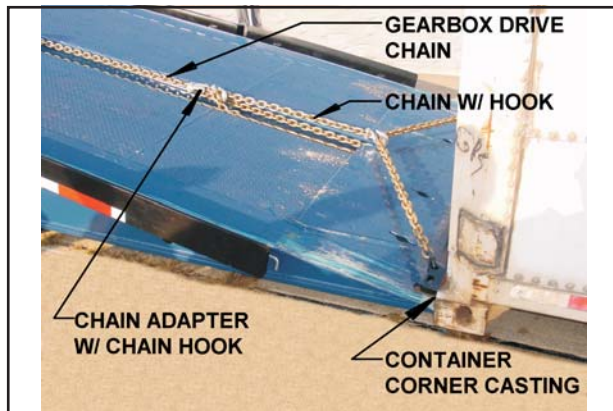

Figure 3-5 Chain Connections
- c. Connect the container chain harnesses provided with trailer to the container corner castings (**See Figure 3-5**).
- e. The chain with hook can now be removed and the container chain harness connected directly to chain adapter with chain hook. This will allow the container to be pulled on farther (**See Figure 3-5**).